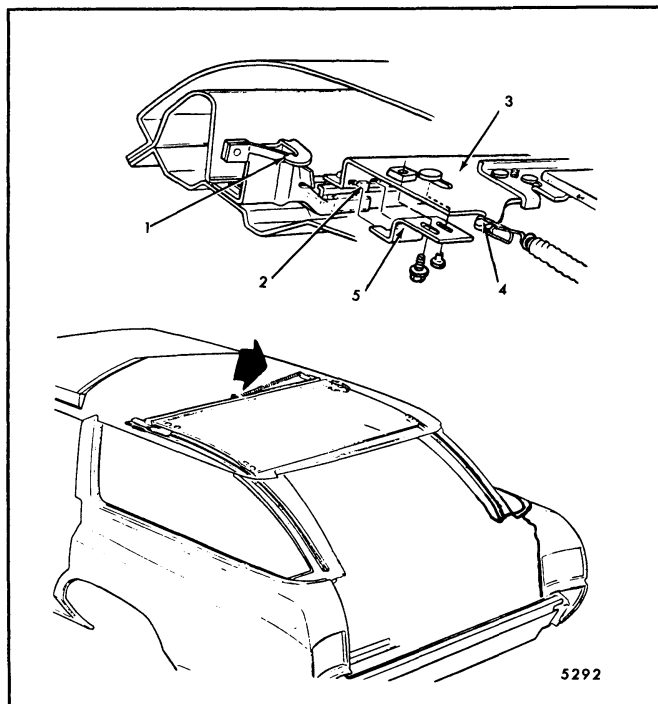

Fig. 7-96-Drive Cable Flag Retainer and Window Lift Spring Details
5. Through access hole described in Step No. 4, transfer window assist spring from retainer on window guide cam to hook on window right upper roller support (Fig. 7-96).
3. Detach headlining over quarter glass on right side sufficiently to reveal access hole at forward attaching location of window guide cam (Fig. 7-96).
5. Through access hole in roof inner panel detach spring from retainer on guide cam (Item "1", Fig. 7-96) and withdraw spring rearward from body.